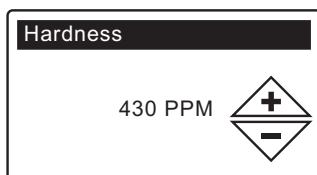

FIG. 21
- 5. HARDNESS** Press the UP ▲ or DOWN ▼ buttons to set the value of your water’s hardness (See Figure 21).